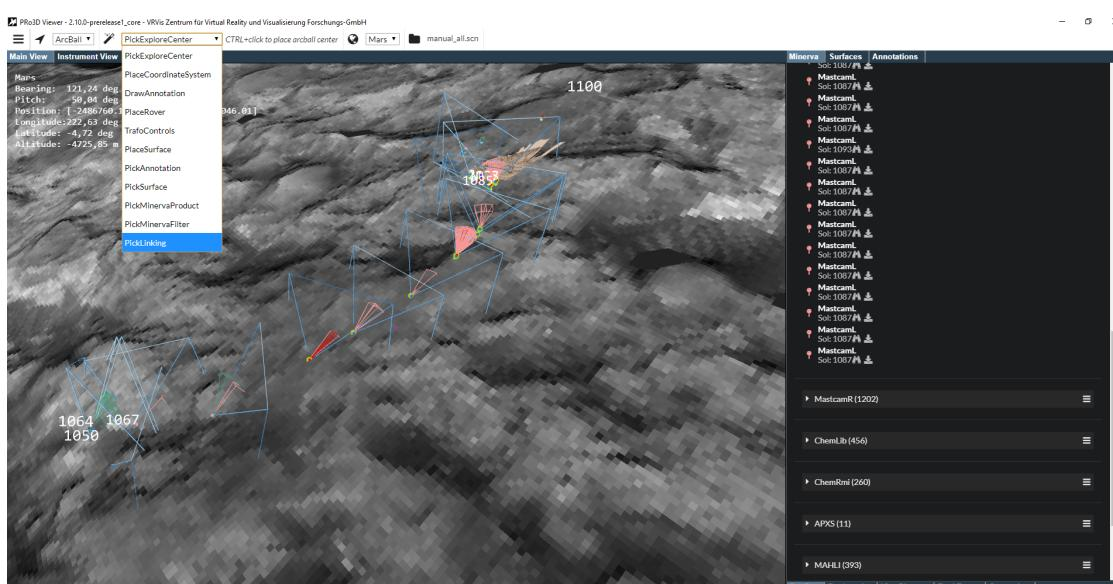

Figure 26: PickLinking
There are three minerva picking actions in the picking actions drop down menu shown in Figure 26.
- **PickLinking:** Select “PickLinking” in the actions menu and press CTRL+LMB to pick a point on the surface. All camera frustums of the products that captures the selected point are shown (Figure 26).